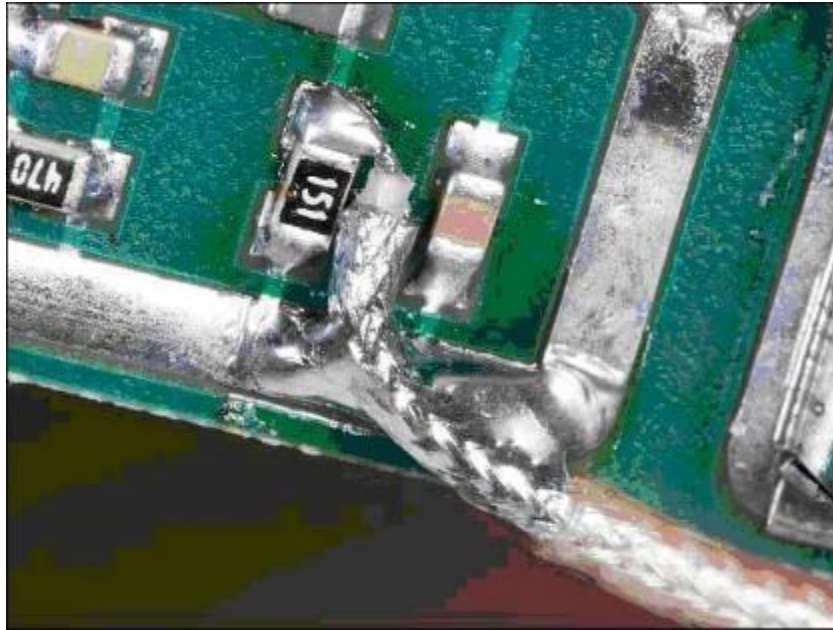

Figure 5: Attachment of RG-178 Coax Cable
9. Attach a piece of the RG-178 coax across R95 with the coax shield attached to the ground plane (Figure 5 below).